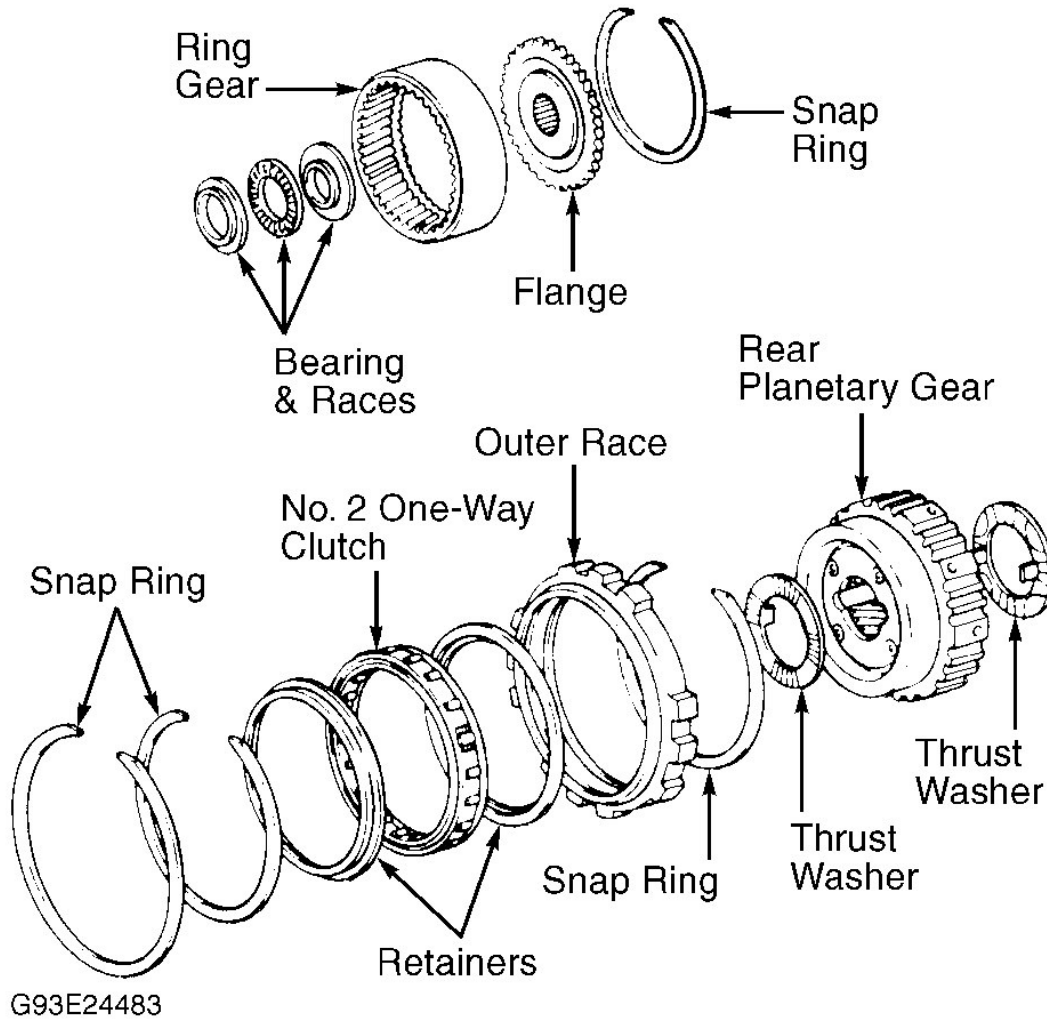

Fig. 27: Exploded View Of Rear Planetary Gear Assembly
2. Install planetary gear into one-way clutch. Planetary gear inner race should face toward back side of outer race. Check operation of one-way clutch. Coat thrust washers with petroleum jelly. Install thrust washers on both sides of planetary gear. Ensure thrust washer tab is aligned with hollow area in gear. See **Fig. 27** .